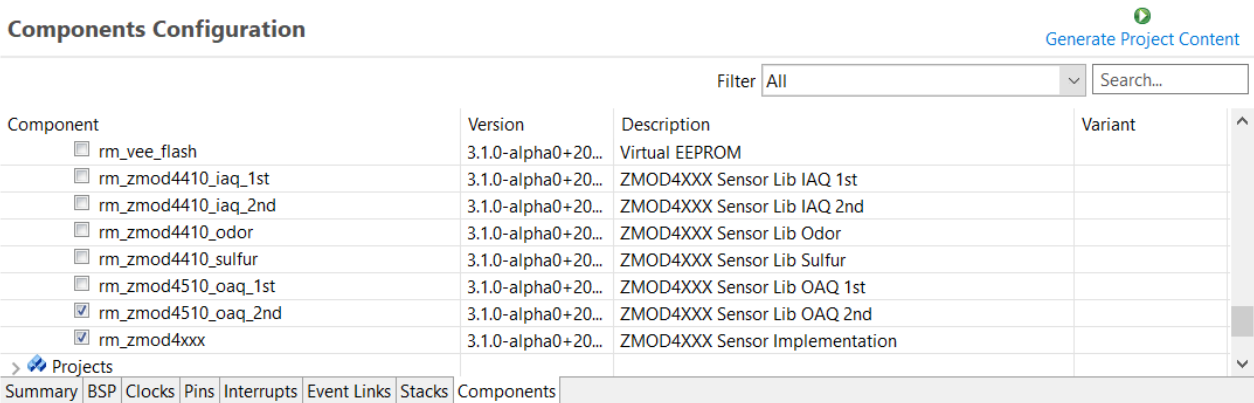

Figure 4. Component Configuration in Renesas e² studio
- Navigate to the **Components** tab, open the Middleware/all folder, and select the required sensor and mode of operation. For the case shown in Figure 4, select the **rm_ZMOD4xxx_rx** and **rm_zmod4410_iaq_2nd**.